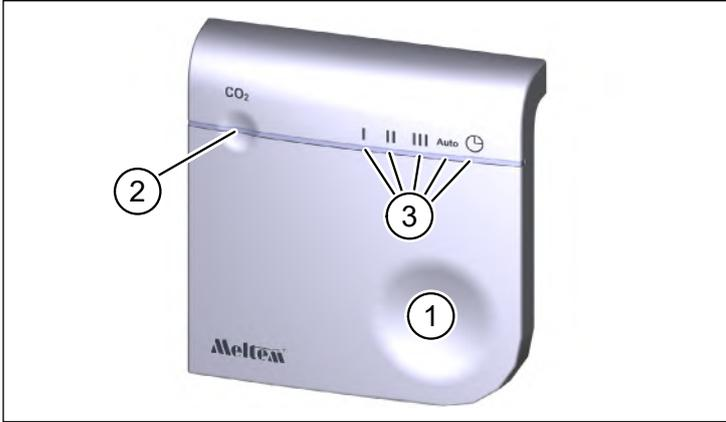

Fig. 1: External wireless CO2 sensor
Item in Fig. 1	Description
The wireless CO2 sensor is used for wireless operation of ventilation units from the M-WRG-II and M-WRG series constructed from 2020 onwards (all excluding RS-485 types). It can also be used to determine the CO2 concentration at an installation location selected by you, provided that it is within the wireless range. The “CO2 control” and “Automatic mode” ventilation programs use the transmitted values to automatically adjust the unit’s air flow to the required ventilation level. One wireless CO2 sensor may be linked to each ventilation unit. If the ventilation unit has an internal CO2 sensor, it will be automatically disabled. The wireless CO2 sensor incorporates the CO2 control function into ventilation units without an internal CO2 sensor. The control button (item 1 in Fig. 1) is used to activate five different ventilation levels/programs. The current selection is indicated by one of the five green mode LEDs (item 3 in Fig. 1). The multi-coloured status LED (item 2 in Fig. 1) signals the wireless sensor and ventilation unit operating statuses. If the CO2 concentration exceeds 800 ppm (factory setting) in the “CO2 control” or “Automatic mode” ventilation program, the ventilation level is increased continuously up to max. 60 m3/h until the CO2 concentration in the room drops back below 800 ppm. When it is started for the first time, the wireless CO2 sensor takes 2 minutes to calibrate itself so that it can return stable values.